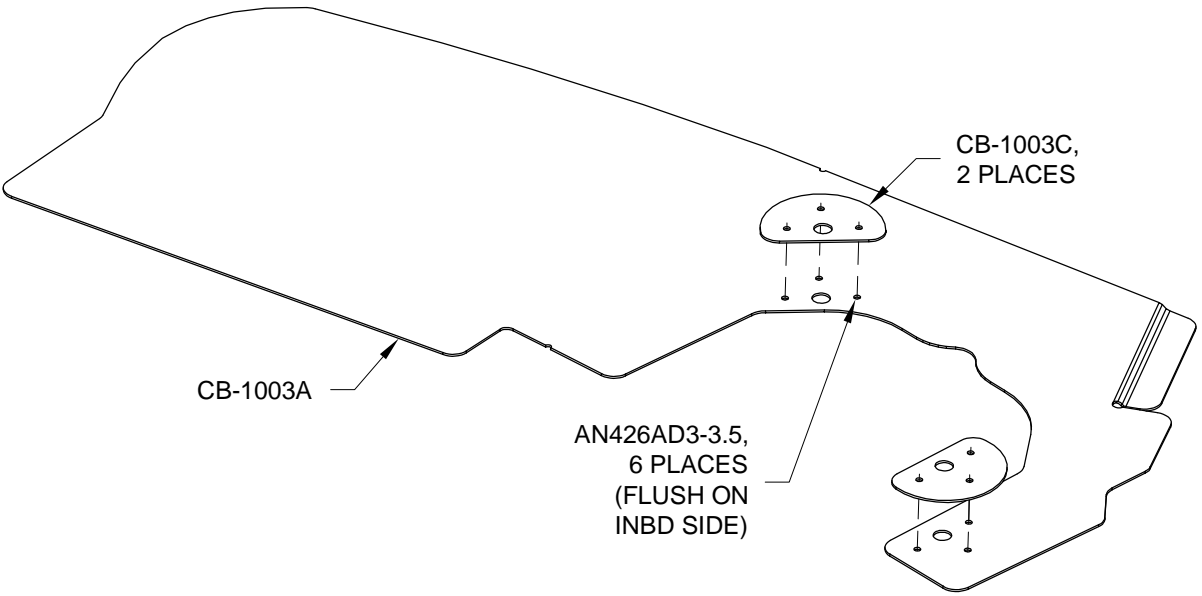

FIGURE 1: CYLINDER 2 BAFFLE ASSEMBLY
Step 1: Cleco two CB-1003C Doubler Plates to the CB-1003A Cylinder 2 Baffle. Final-Drill #40 the rivet holes common between the doubler plates and the cylinder 2 baffle. See Figure 1.
Step 3: Rivet the two CB-1003C Doubler Plates to the CB-1003A Cylinder 2 Baffle. See Figure 1.